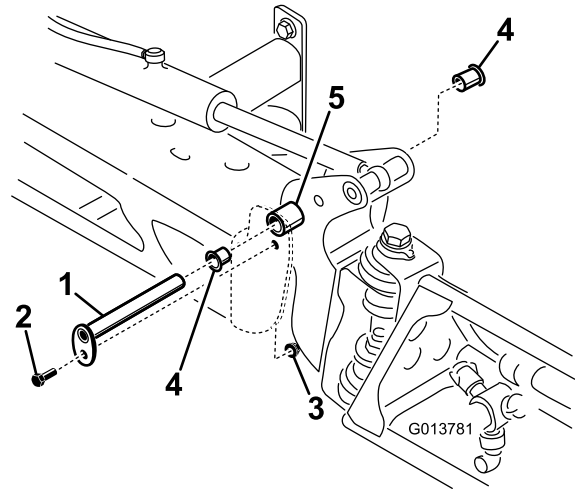

Figure 76
- With the weight of the boom supported, remove the bolt and nut securing the pivot pin to the boom assembly (Figure 76).
- Remove the pivot pin (Figure 76).
- Remove and inspect the nylon bushings from the front and back sides of the pivot bracket (Figure 76).
- Install the boom and pivot bracket assembly into the center frame, aligning the openings (Figure 76).